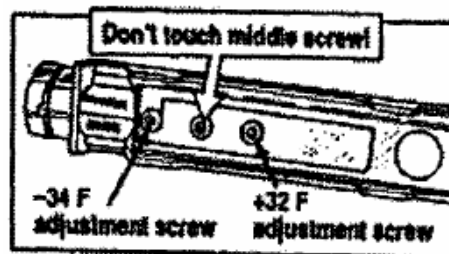

Figure 3-4
- b. If reading is more than 34 degrees F or less than 30 degrees F, your tester needs adjusting. Take three (3) or four (4) readings to be sure.
- e. The screw farthest from the eyepiece controls the 32 degree Fahrenheit end of the scale. Use a small screwdriver to adjust the screw. Clockwise increase the reading; counterclockwise reduces it. Make sure the final adjustment to 32 degrees Fahrenheit is clockwise (See **Figure 3-4**).